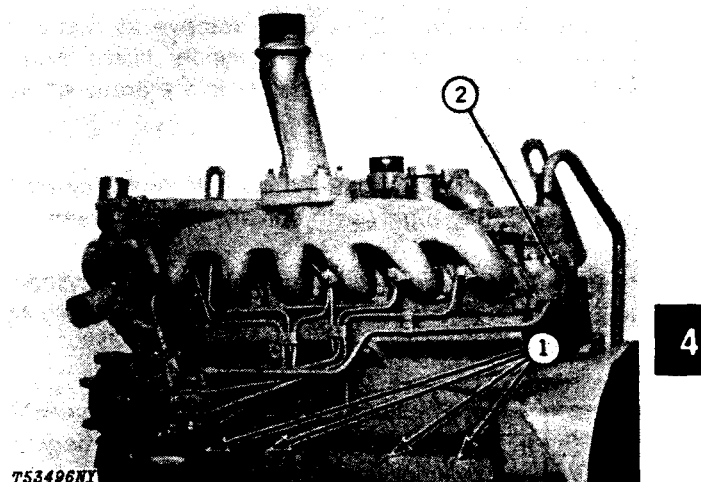

Fig. 4-Oil Gallery Plugs and Core Hole Plugs
Inspect the cylinder block for damage. If block is useable, scrape all gasket material from the cylinder block. Remove oil gallery plugs (1, Fig. 4) and core hole plugs (2).